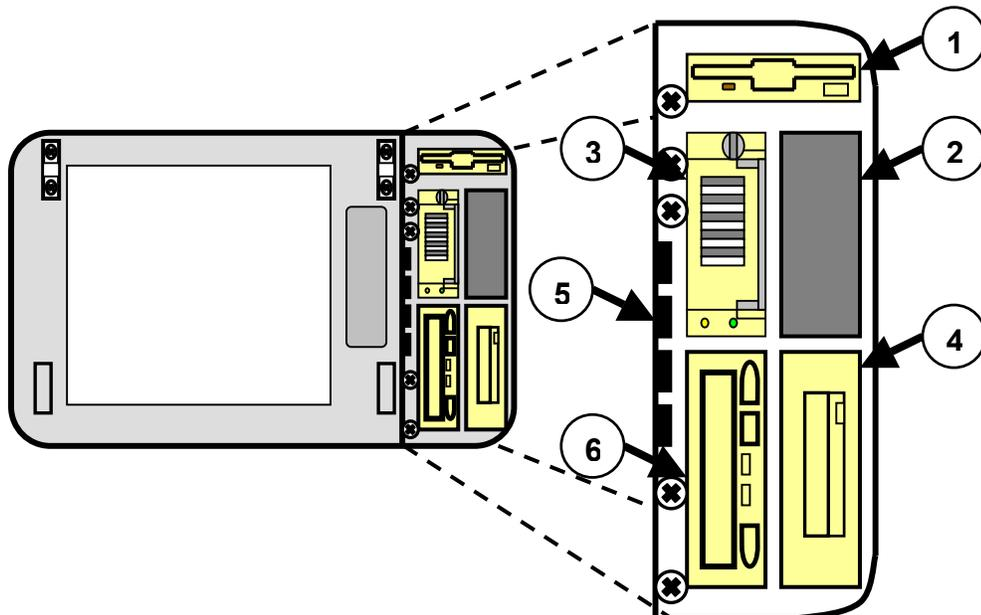

Figure 1-2. CCU2 Drive Bays.
2. A hinged panel closed by five hand screws covers the right front of the CCU2. This panel contains the hard disk drive and peripheral media drives. Figure 1-2 represents the drive bays. Table 1-2 describes the devices and their functions.